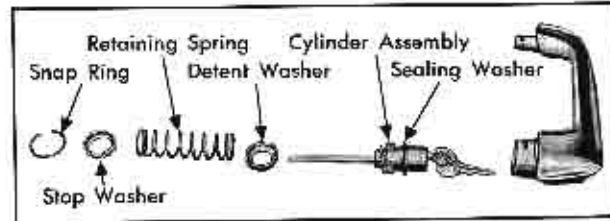

Fig. 3-23 Door Handle Assembly
2. With suitable tool, remove retaining snap ring in Fig. 3-23, and carefully remove stop washer,
3. Remove cylinder assembly with sealing washer from door handle, Fig. 3-23.